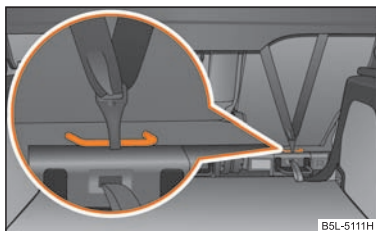

Fig. 145 Rear seat: Top Tether
The rear exterior seats and/or the middle seat (only valid for some countries) are equipped as standard with the attachment system "Top Tether" at the rear of the seat backrest for enhancing the child safety ⇒ fig. 145.
- Attach the child seats with the "Top Tether" system only to the points provided for this purpose ⇒ fig. 145.